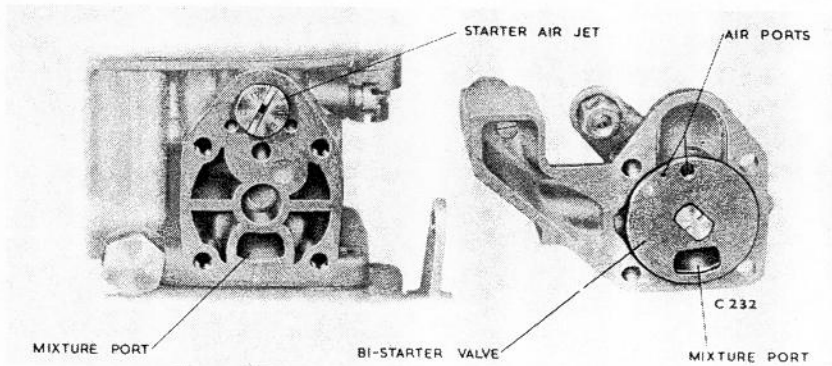
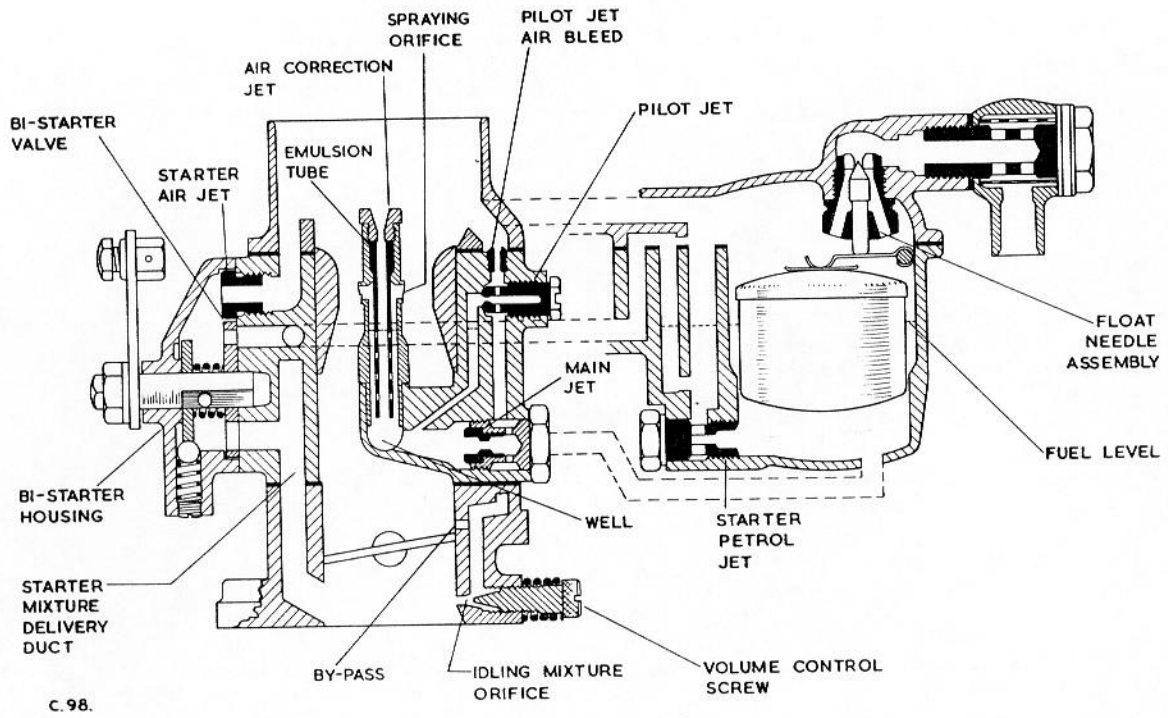

Fig.2 Bi-starter assembly.
Fig. 3 Diagram of carburettor.
The Bi-starter housing is secured to the left-hand side of the carburettor body. The assembly is illustrated in Fig.2 and shown diagrammatically in Fig.3. A semi-rotary plate valve and a disc are located on a spindle mounted in the chamber formed between the housing and the carburettor body, the spindle being operated by a lever. A spring fitted between the valve and disc holds the valve against its seating on the body, and a spring-loaded ball locates the valve in its intermediate setting by engaging an "indent" on the periphery of the disc.
The valve has two adjacent ports, one large and one small, while diametrically opposite is a radial slot, see Fig. 2. When the valve is turned to the "cold starting" position, the larger port at the top registers with the petrol delivery port in the carburettor body, and permits the full output of petrol from the starter petrol jet to enter the Bi-starter chamber. This jet is situated at the base of the float chamber, adjacent to the Bi-starter assembly. When the valve is turned to the intermediate position, its smaller port registers with the petrol delivery port and restricts the flow of petrol from the jet. The correct volume of air for both valve positions is controlled by the starter jet; the air enters the chamber and the resultant petrol/air mixture passes through the radial slot in the valve to the starter mixture delivery duct, and enters the induction system below the carburettor throttle butterfly, see Fig. 3. It is thus imperative for the correct functioning of the Bi-starter that the throttle is fully closed otherwise the necessary depression in the Bi-starter will not be obtained. The richest mixture is required only for the initial start and this is supplied by the Bi-starter. When the engine has fired and "picked-up", the starter well becomes empty and the supply is then restricted to the output of the starter petrol jet. At the same time, with the increase in r.p.m., a larger volume of air is inspired by the starter air jet thereby weakening the mixture to its correct proportions and counteracting any tendency to overdose the engine cylinders.
Referring to Fig.3, when the engine has been started and the throttle opened beyond the slow-running range, air is drawn through the choke tube venturi. The depression in the venturi draws petrol from the spraying assembly through the spraying orifices and the resultant mixture passes to the induction system.
Progressive opening of the throttle increases the depression in the choke and more petrol is drawn from the well, but as the petrol level in and around the emulsion tube is lowered, the emulsion tube holes are uncovered progressively, permitting more air to enter and balance the mixture to its correct proportions. When the well is empty, the fuel supply is governed by the main jet alone. Fig. 3 indicates that the air will discharge through the emulsion tube at right angles to the upward flow of petrol from below, thus offering resistance to the output of petrol from the well.
5. Refit the Bi-starter assembly; no gasket is fitted. If a new disc valve is required, the valve assembly is supplied only as an integral unit. Ensure that it is inserted in the housing the correct way up, i.e. with the slot to the bottom and the lever facing upwards, see Fig.2.